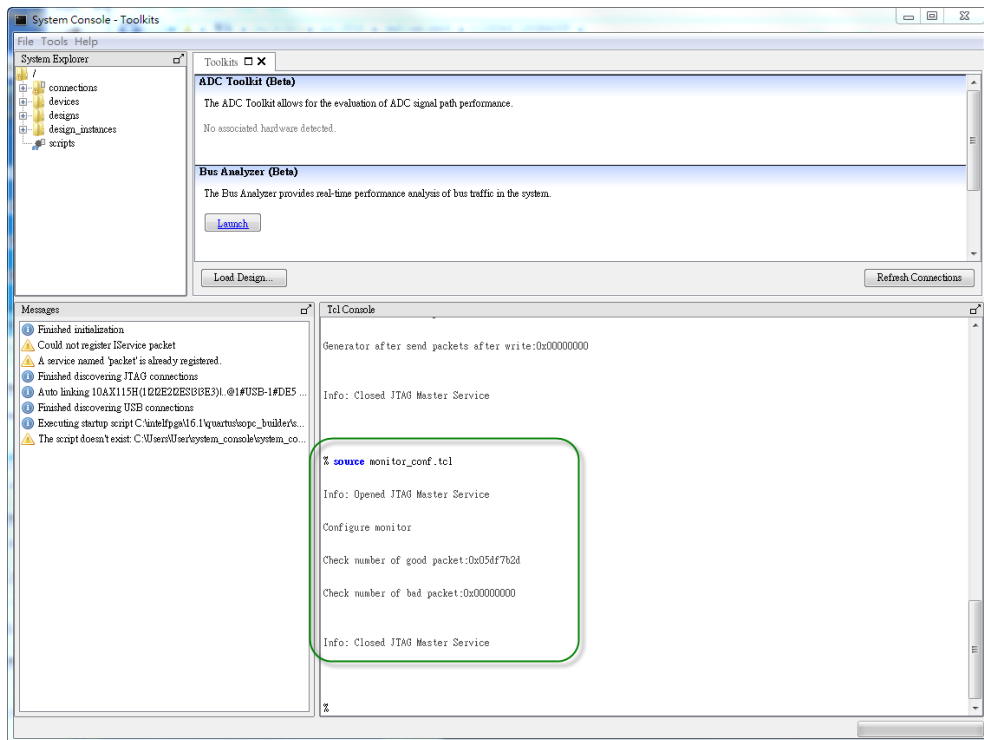

Figure 9-13 Report for monitor_conf.tcl
7. In the System Console windows, input the following command to check the good and bad packets received, as shown in **Figure 9-13**.